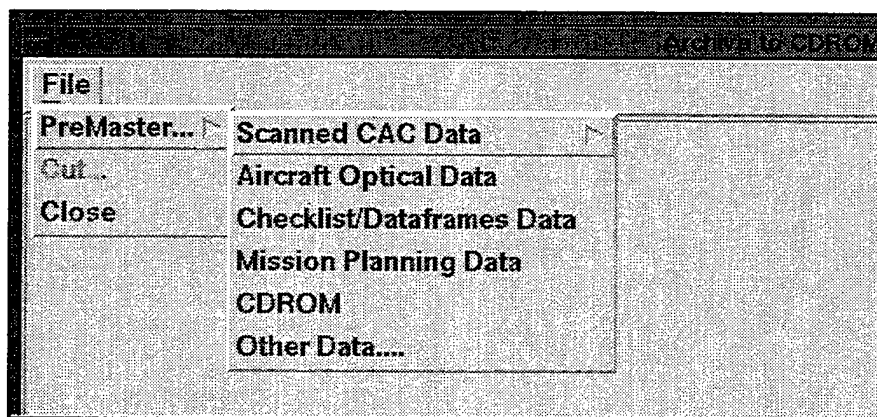

Fig. 34 — Archive to CDROM window
3.3.6.2.1 Archive Data to CDROM—"Premasters" a set of data into a CD image and writes the data to a CD. The CD images conform to the International Standard Organization (ISO) 9660 standard for optical disk formats. When a user selects this option, MMC opens the **Archive To CDROM Window** (Fig. 34). Click on *Premaster* and select the data type to be archived: *Scanned CAC Data*, *Aircraft Optical Data*, *Checklists/Data Frames Data*, *Mission Planning Data*, *CDROM*, or *Other Data*. MMC will build an ISO 9660 image from that data. If the user has built an ISO image before, MMC will prompt the user to delete that file before building a new one. After premastering the data into an ISO image, select *Cut* to actually copy the data to a CD. When finished, select *Close* to return to the MMC Window. There are six data types that MMC can archive to CD: